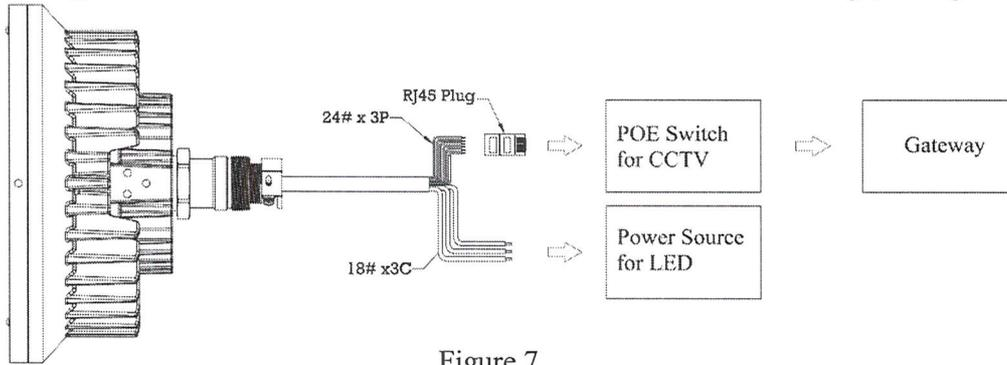

Figure 7
1. Insert the cable (2) of the luminaire into the Ex certified Junction Box (1).
2. Fix and Introduce the wires of luminaire with the terminal post of Junction Box (White-wire connects to Neutral; Red-wire connects to Live; Green-wire connects to Ground.). CCTV connection see Figure 7 & 8.
- ☞ The 18 # x 3C wires is intended for the LED power connection (see Figure 7)
- ☞ The 24# x 3P wire is intended for the POE (Max. 48V, 0.35A) connection (see Figure 7)